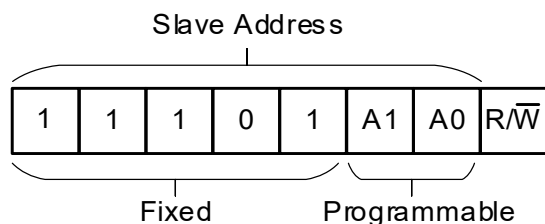

Figure 7-8. NCA9539C-Q1 device address
Figure 7-8 shows the address byte of the NCA9539C-Q1. The last bit of the target address defines the operation (read or write) to be performed. A HIGH (1) selects a read operation, while a LOW (0) selects a write operation.
Data is transmitted to the NCA9539C-Q1 by sending the device address and setting the least significant bit to a logic 0 (see Figure 7-8). The command byte is sent after the address and determines which register will receive the data following the command byte.
In order to read data from the NCA9539C-Q1, the bus master must first send the NCA9539C-Q1 address with the least significant bit set to a logic 1 (see Figure 7-8). The command byte is sent after the address and determines which register will be accessed. After a restart, the device address is sent again, but this time the least significant bit is set to a logic 1. Data from the register defined by the command byte will then be sent by the NCA9539C-Q1 (see Figure 7-12, Figure 7-13 and Figure 7-14). Data is clocked into the register on the rising edge of the acknowledge clock pulse. After the first byte is read, additional bytes may be read but the data will now reflect the information in the other register in the pair. For example, if Input Port 1 is read, then the next byte read would be Input Port 0. There is no limitation on the number of data bytes received in one read transmission, but the final byte received, the bus master must not acknowledge the data.